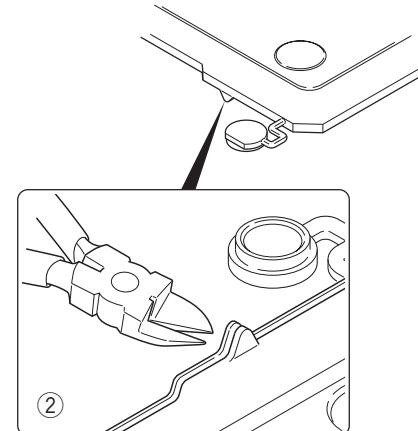

Fig. 9-3
- Note :** If the GPS receiver is installed, cut the base of the convex tab of the top packing with a pair of nippers, or similar tool. (Fig. 9-3 ②)